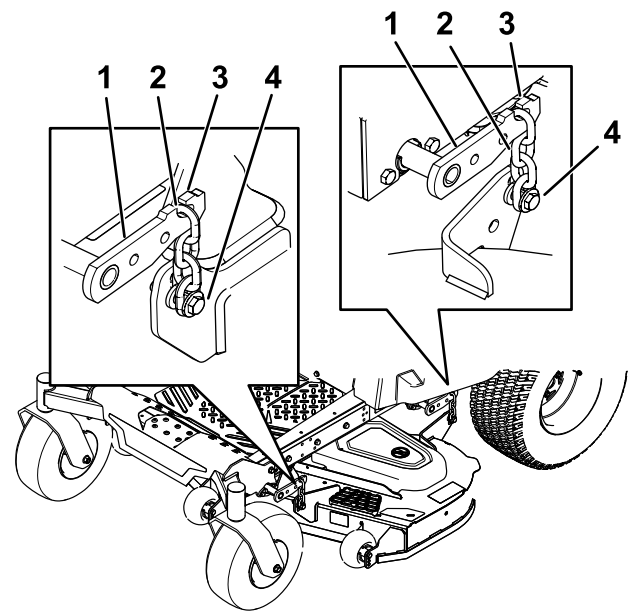

Figure 67
7. Remove the chains from the hooks on the deck-lift arms (Figure 67).
6. Lift the rear of the mower deck and attach the chains to the rear lift arms (Figure 67).
7. Attach the front chains to the front lift arms (Figure 67).